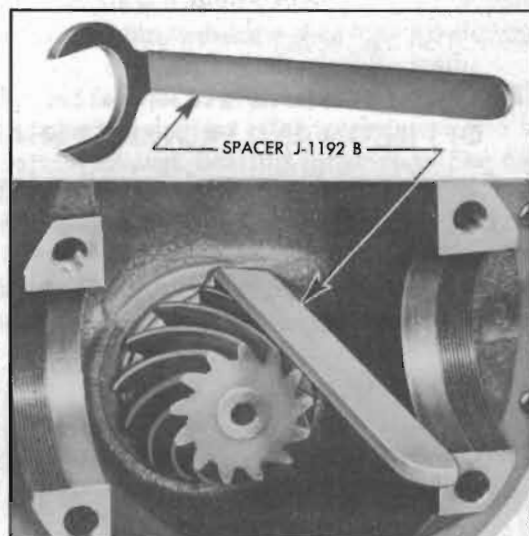

Figure 5-20—Use of Pinion Bearing Spacer J 1192-B
4. As the pinion rear bearing enters third member housing, place Pinion Bearing Spacer J-1192-B, (1/4" thick) between bearing and pinion gear so that bearing can be pushed into place without binding against spacer on pinion. See figure 5-20.